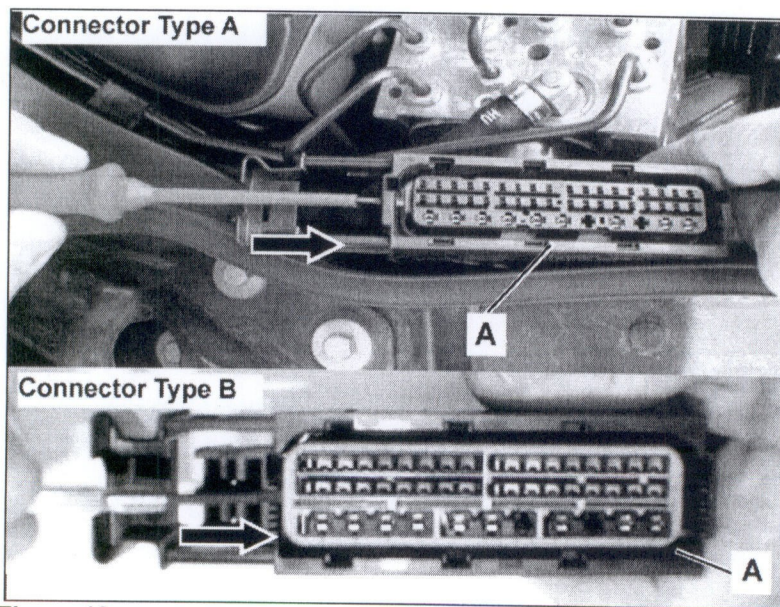

Figure 18
16. Close the (gray) secondary lock of the SBC connector housing (A, Figure 18) by sliding the lock in the direction indicated by the arrows (Figure 18) using a small screwdriver until it locks into place.